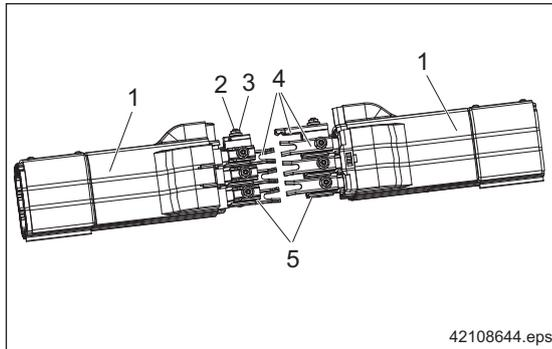

Fig. 24
- Push conductor connector U-section (4), ⇒ Fig. 24, Page 31 onto the connecting lugs until the conductors butt against each other.